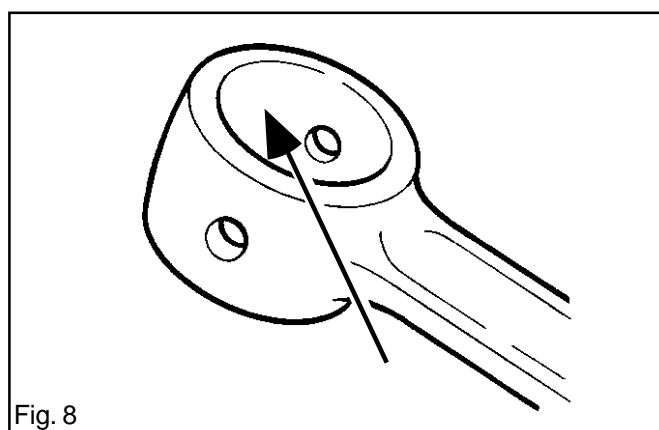

Fig. 8
- 3. That the bearing surfaces for the little-end do not have any score marks or are discoloured. See fig. 8.